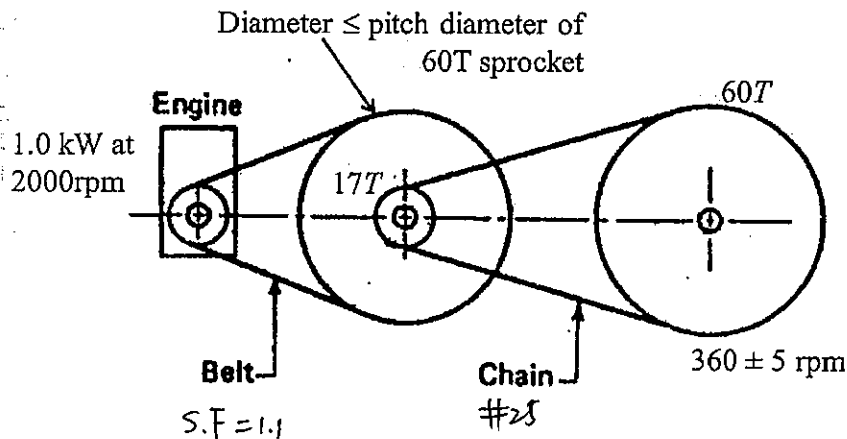

Figure 3
3. A small engine delivers 1.0 kW at 2000 rpm to a driven machine via a V-belt drive at the engine and a chain drive at the driven machine as shown in Figure 3. The driven pulley and the drive sprocket are both mounted on the same shaft. The chain drive uses three strands of No. 25 roller chain with a drive sprocket of 17 teeth and a driven sprocket of 60 teeth. The speed of the driven sprocket is kept at 360 ± 5 rpm. The diameter of the driven pulley is about the same but not exceeding the pitch diameter of the driven sprocket. The service factor for the V-belt drive is assumed to be 1.1.